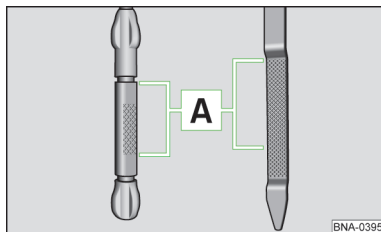

Fig. 79
The oil level must be in range **A** » fig. 79. If the oil level is below range **A**, oil must be added.
- The oil level must never be below range **A** » fig. 79 – There is a risk of damage to the engine as well as to the exhaust system.